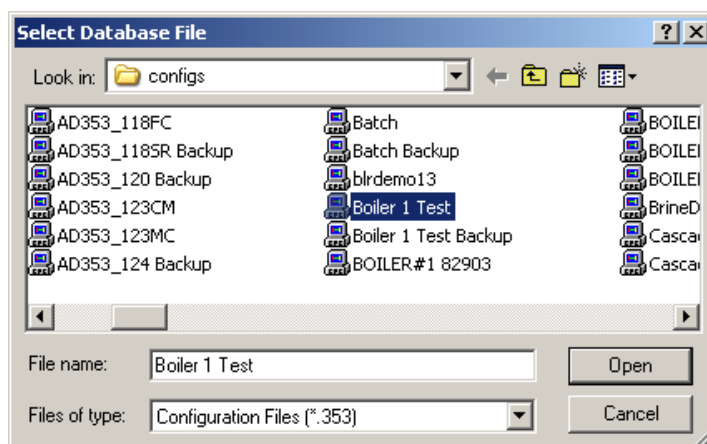

Figure 6-5 Select Database File dialog
1. Click the **Open** button on the **Standard** toolbar. The Select Database File dialog displays. See Figure 6-5.